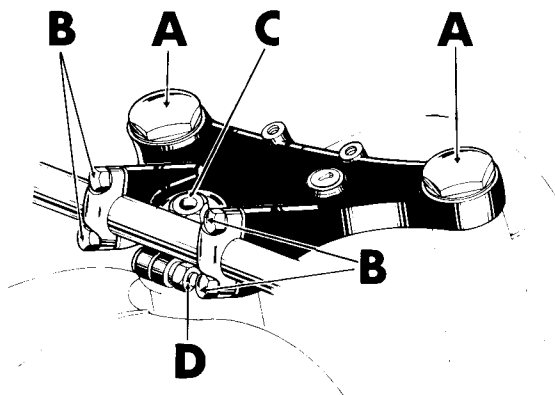

FIG. E.3.
Slacken the pinch bolt (D), remove the cap (C), and unscrew and remove the adjusting sleeve which is underneath cap (C) Fig. E.3. Unscrew caps (A) lift up and unscrew the fork damper rods which are screwed into the underside of the caps. Allow the rods to drop down into the fork legs, they can be retrieved later.
Remove the two caps (A) Fig. E.3, and release the damper rods allowing them to drop down into the main tubes.